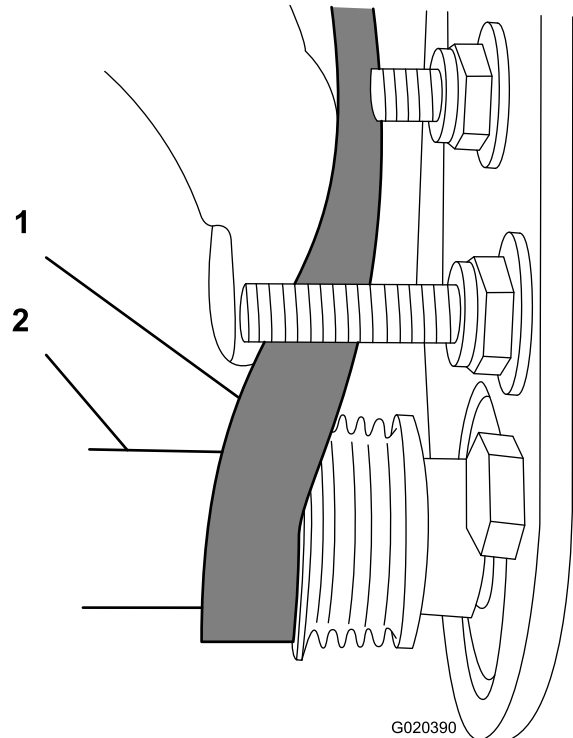

Figure 15
- Start the belt on the **driven** pulley (Figure 15).
- Use a 9/16-inch deep-well socket to rotate the brush assembly and guide the belt onto the driven pulley (Figure 15).